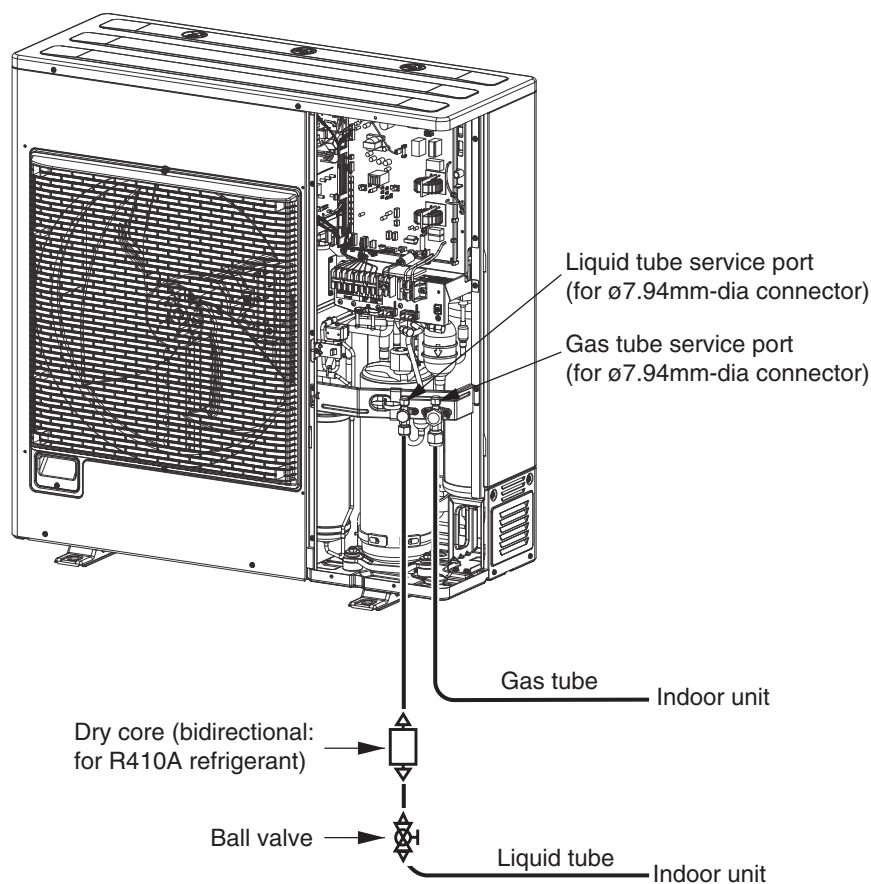

Fig. 11
- (5) As shown in Fig. 11, disconnect the tube that runs from the liquid tube valve to the ball valve on outdoor unit where dry cores will be attached. Then attach the dry cores.
- (6) At outdoor unit where dry cores are attached, pressurize with 3.8 MPa of nitrogen from the liquid tube service port and check for leaks.
- (7) After evacuating all nitrogen gas from the tubing, apply vacuum from the liquid tube service port to outdoor unit where dry cores are attached until the pressure is -101kPa {-755 mm Hg, 5 Torr} or less.
- (8) Fully open the liquid tube valve and ball valve on all outdoor units where dry cores are attached.
- (9) Operate all units for approximately 3 hours (in either Heating or Cooling mode).
- (10) Follow the above procedure, and replace dry cores with new dry cores.
- (11) Operate all units for approximately 20 minutes (in either Heating or Cooling mode).
- (12) Follow the instructions in "2. Discharging Compressor Oil" and drain a small amount of the oil from the oil separators of outdoor unit where dry cores are attached. Check the color phase, odor, and other characteristics.
- (13) If the results show that dry core cleaning is still necessary (for example, a color phase of 4.0 or higher)*, return to Step 11 and repeat until the results return to normal (including a color phase of 3.5 or less)*.
- (1) See the section “3-2-3. Refrigerant recovery procedures (2) : Indoor unit with no ball valve equipped”. Perform pump down of the refrigerant from all indoor units and inter-unit tubing to the outdoor unit side.
- (2) Cut the liquid tube at all outdoor units where dry cores will be attached, then attach the dry cores and ball valves as shown in Fig. 11.
- (3) For the next steps, see the steps (6) – (17) in (A) on the previous page.